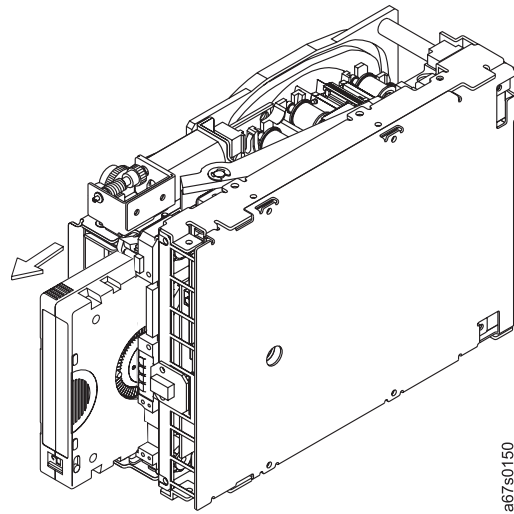

Figure B-20. Rotating the loader motor gear until the cartridge ejects
13. Rotate the loader motor gear counterclockwise until you feel resistance and the cartridge rises and ejects (see Figure B-20).